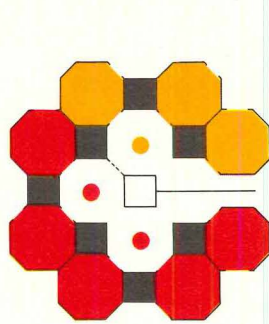

Fig. 6a
*Fig. 6* illustrates a way of designing and expanding the inner sterile zone at the center. *Fig. 6a* shows an eight-room suite with five allocated as operating rooms and three as delivery rooms. They are each octagonal and arranged in a ring so that patients are wheeled in through entrances on the outer edge, the staff entering from the inner scrub and work space. The outer corridor as well as the inner space is partitioned to prevent movement of people between the surgical and delivery suites,